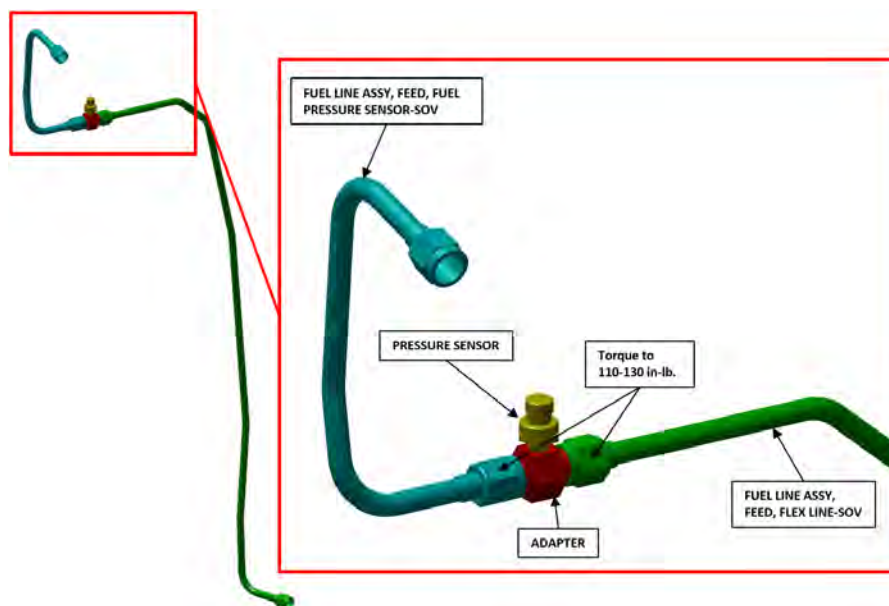

FIGURE 13-33
4. Remove PRESSURE SENSOR. Use backing wrench to hold the fuel pressure sensor adapter in place prior to loosening up the sensor. (See Figure 13-33.)
2. Apply THREADLOCKER to threads of the PRESSURE SENSOR. Install PRESSURE SENSOR 2 to 3 turns past finger tight into the fuel pressure sensor adapter. (See Figure 13-33.)